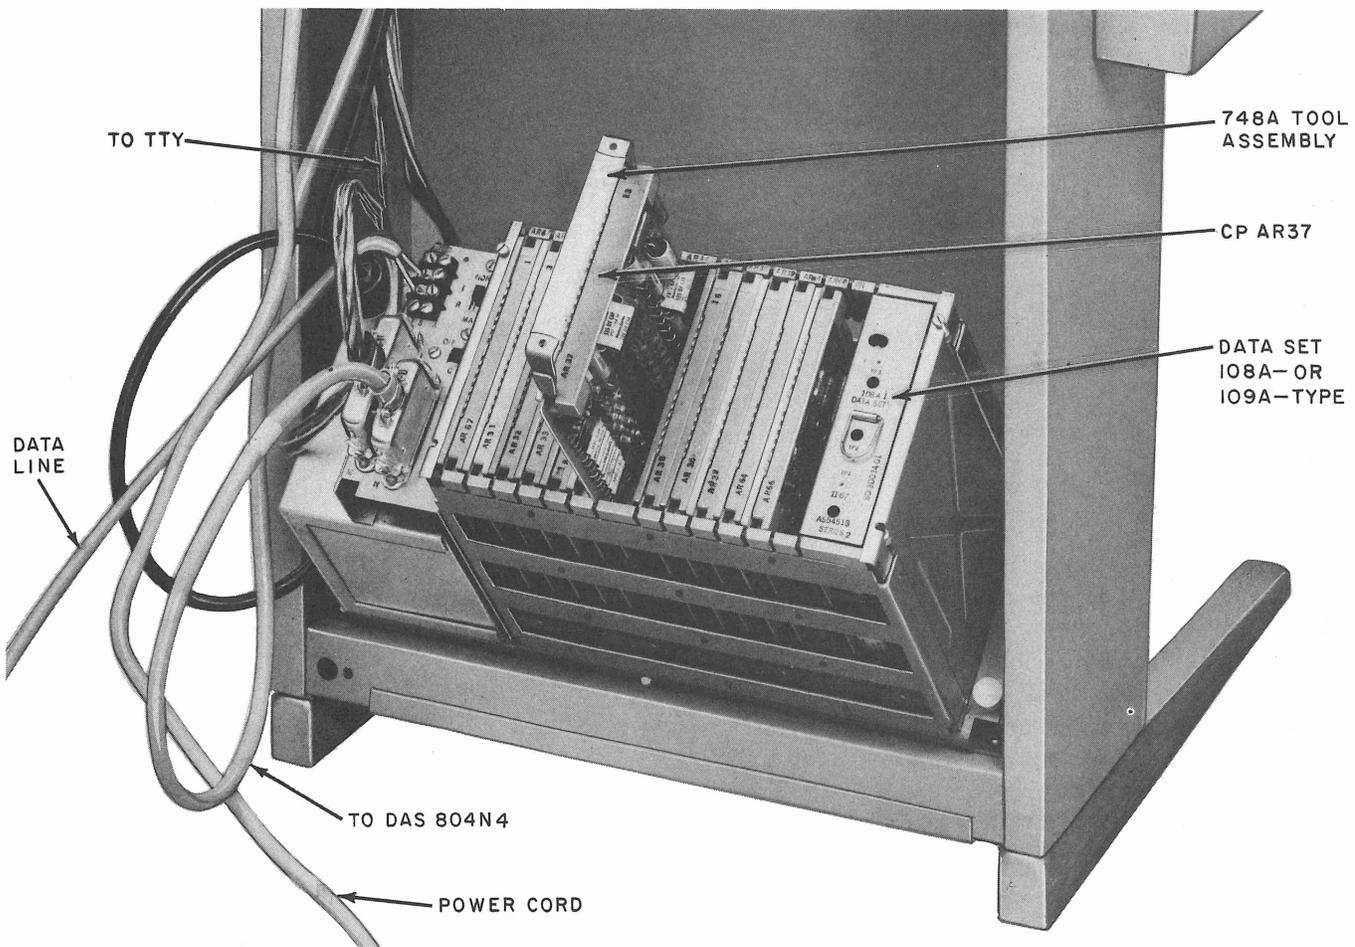

Fig. 1—Model 33 ASR, Rear View With Data Auxiliary Set 820B2 in Maintenance Position
- (1) Rotate latch counterclockwise. This allows DAS 820B2 to pivot on the 91A bracket.
- (2) With both hands on DAS 820B2, gently pull top towards rear of station (Fig. 1).